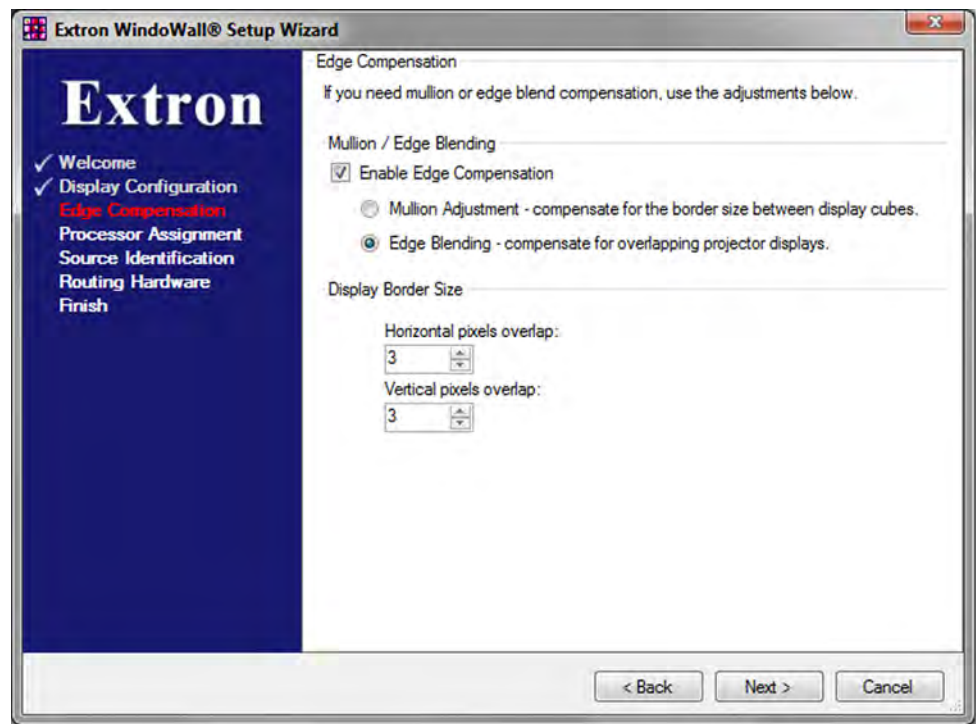

Figure 45. Edge Compensation Wizard Screen with Edge Blending Selected
4. On the Edge Compensation screen, select the **Enable Edge Compensation** check box and the **Edge Blending - compensate for overlapping projector displays** radio button. The screen changes as shown in figure 45.